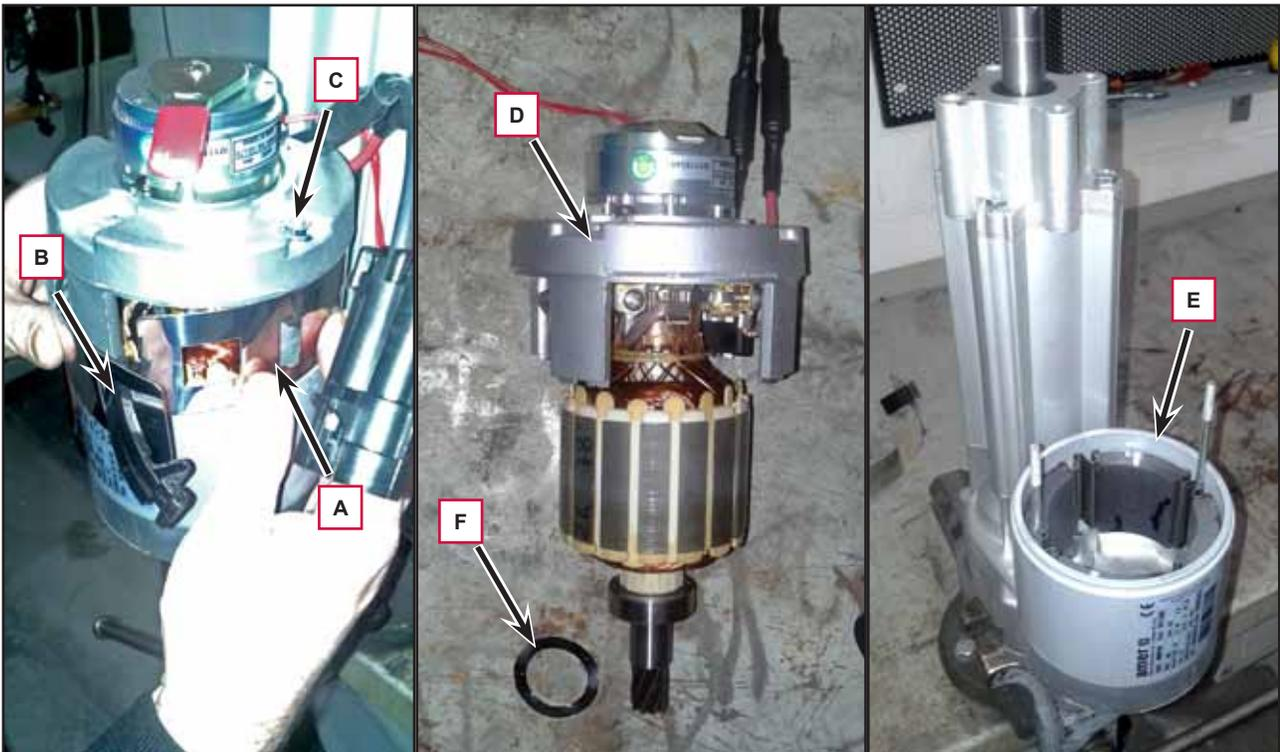

Figure 8
3. Remove the clamp (A, Figure 8) by disengaging the tab (B).
4. Remove the two nuts (C), carefully remove the motor armature (D) from the stator cylinder (E).
5. Retrieve the retaining ring (F).